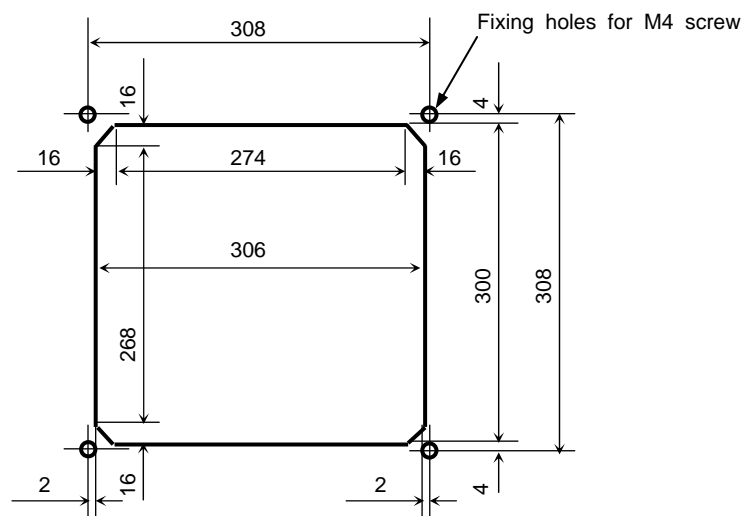

Figure 4.4 Dimensions of opening and fixing holes for flush mounting
- (1) Cut a rectangle opening. (Refer to Figure 4.4)
- (2) Loosen two (2) fixing bolts that fasten the display unit on to the mounting bracket.
- (3) Remove four (4) plastic screw covers, which are fitted on each corner of the display front face. (Pull up and out for easy removal.) Do not lose these screw covers.
- (4) Put the display on the opening and fix with four (4) tapping screws. In case you use M4 screws to fix the display, select an appropriate screw length that best suits fixing the unit to the panel thickness.
- (5) Refit the covers removed in step (3).